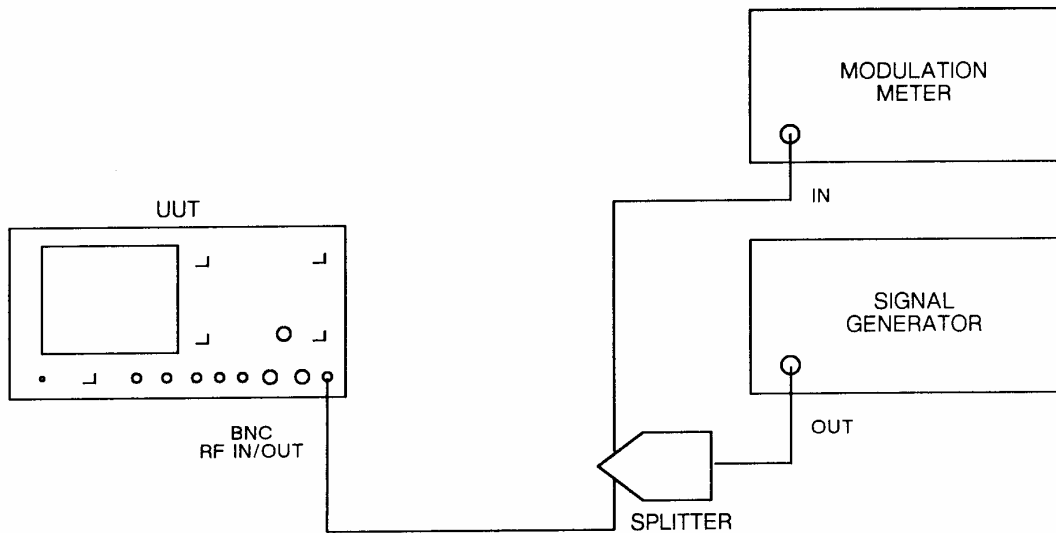

Fig. 5-1-4 Test equipment connections for modulation meter AM & FM monitor accuracy performance checks
- (1) Connect the equipment as shown in Fig. 5-1-4.